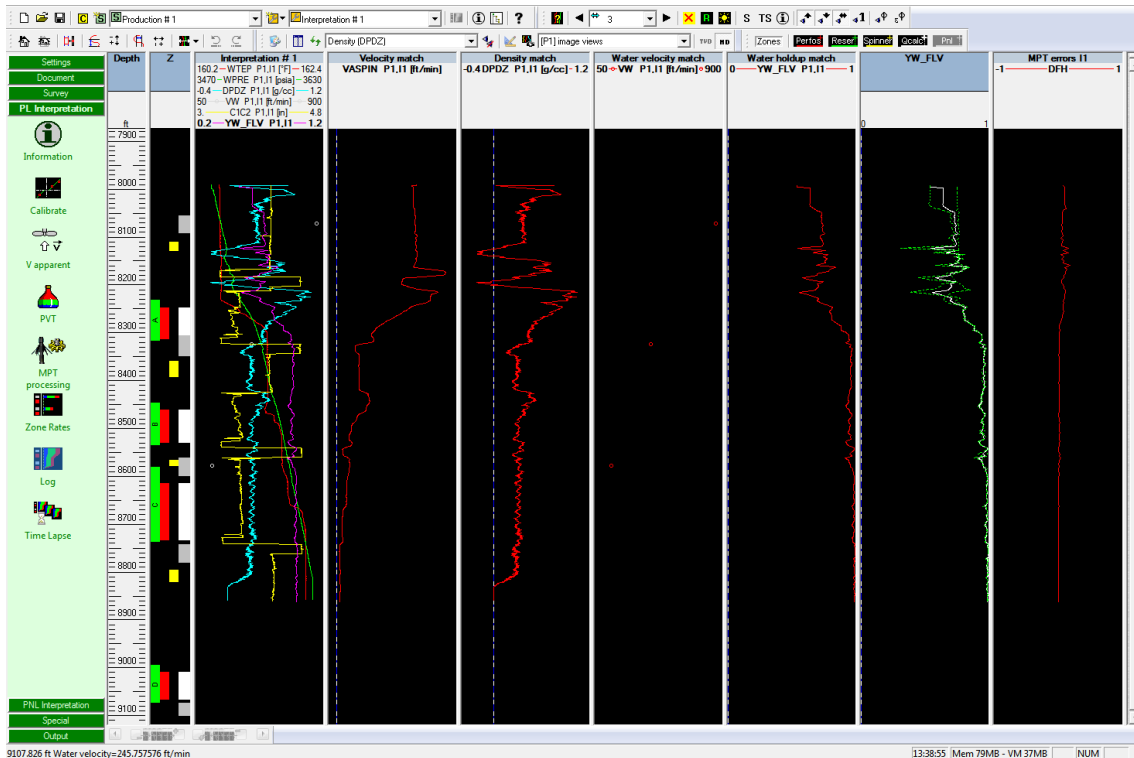

Fig. B05.32 • Calculation zones created
- Select the 'Calculation zones' option in turn to create zones 2 and 3 for stations 2 and 3, zone 4 below the third set of perforations, and a final zone below the fourth perforation, as in Fig. B05.32.